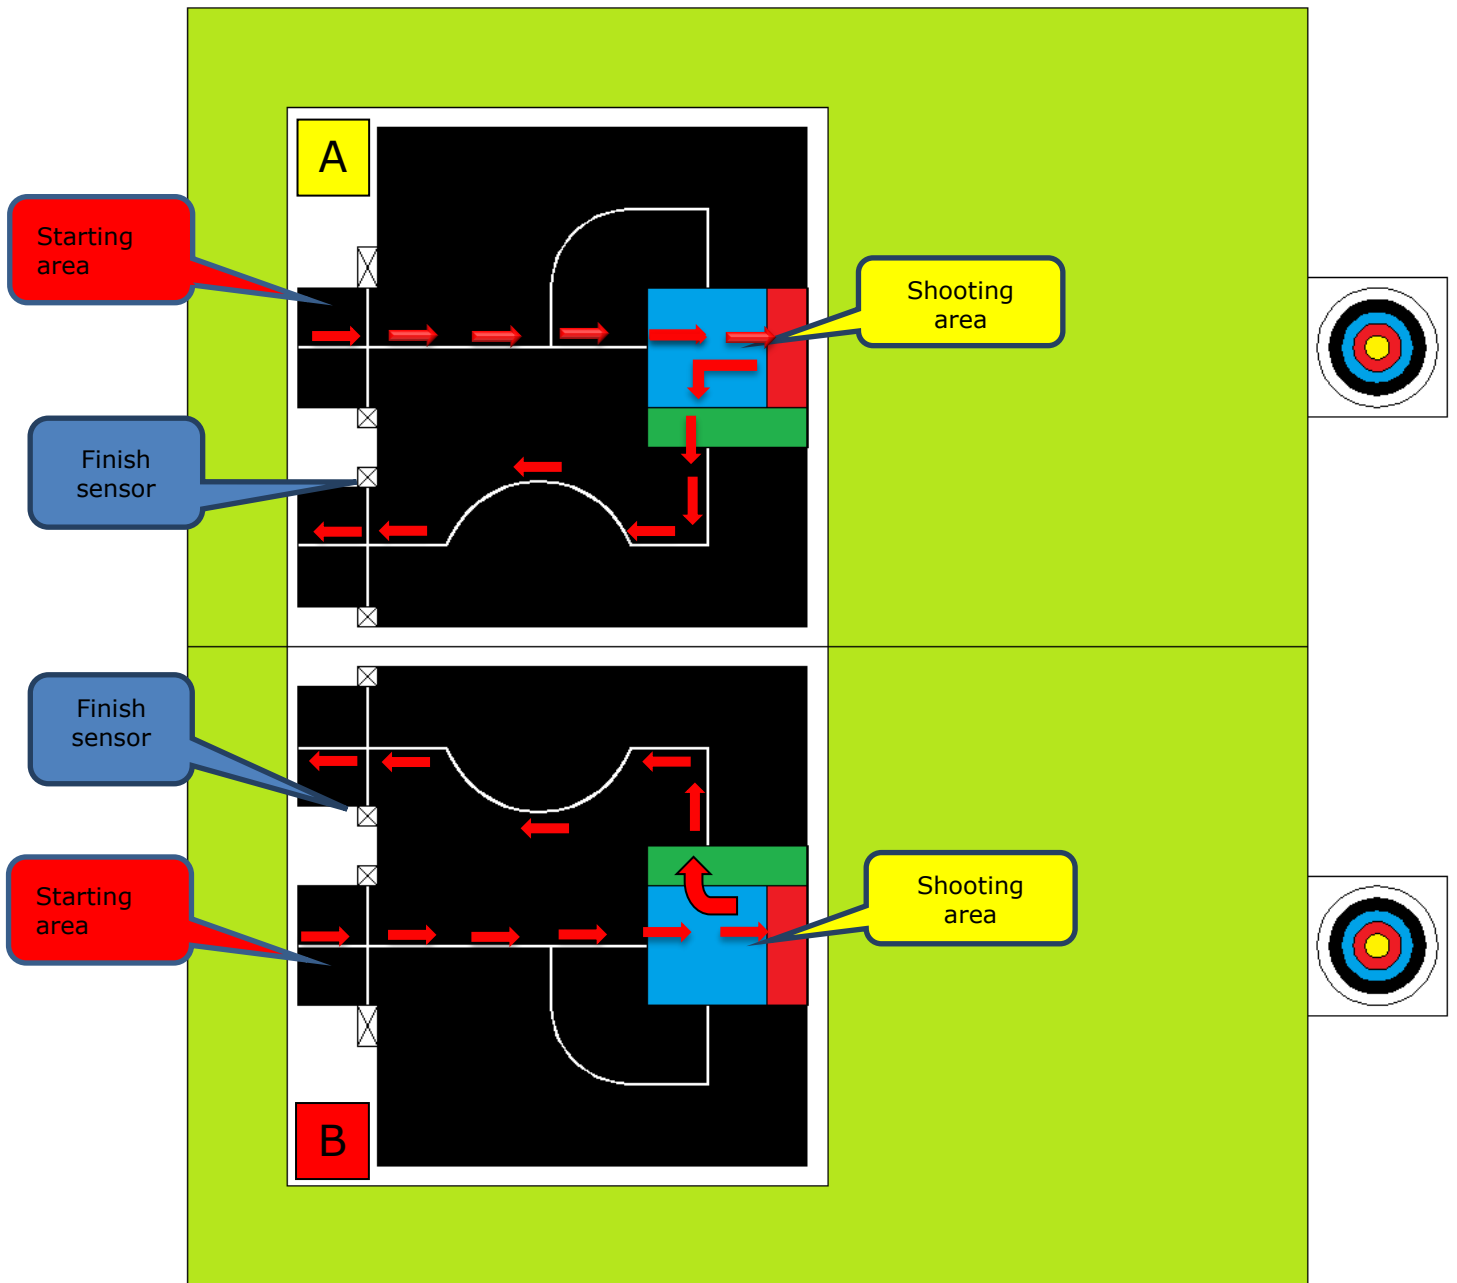
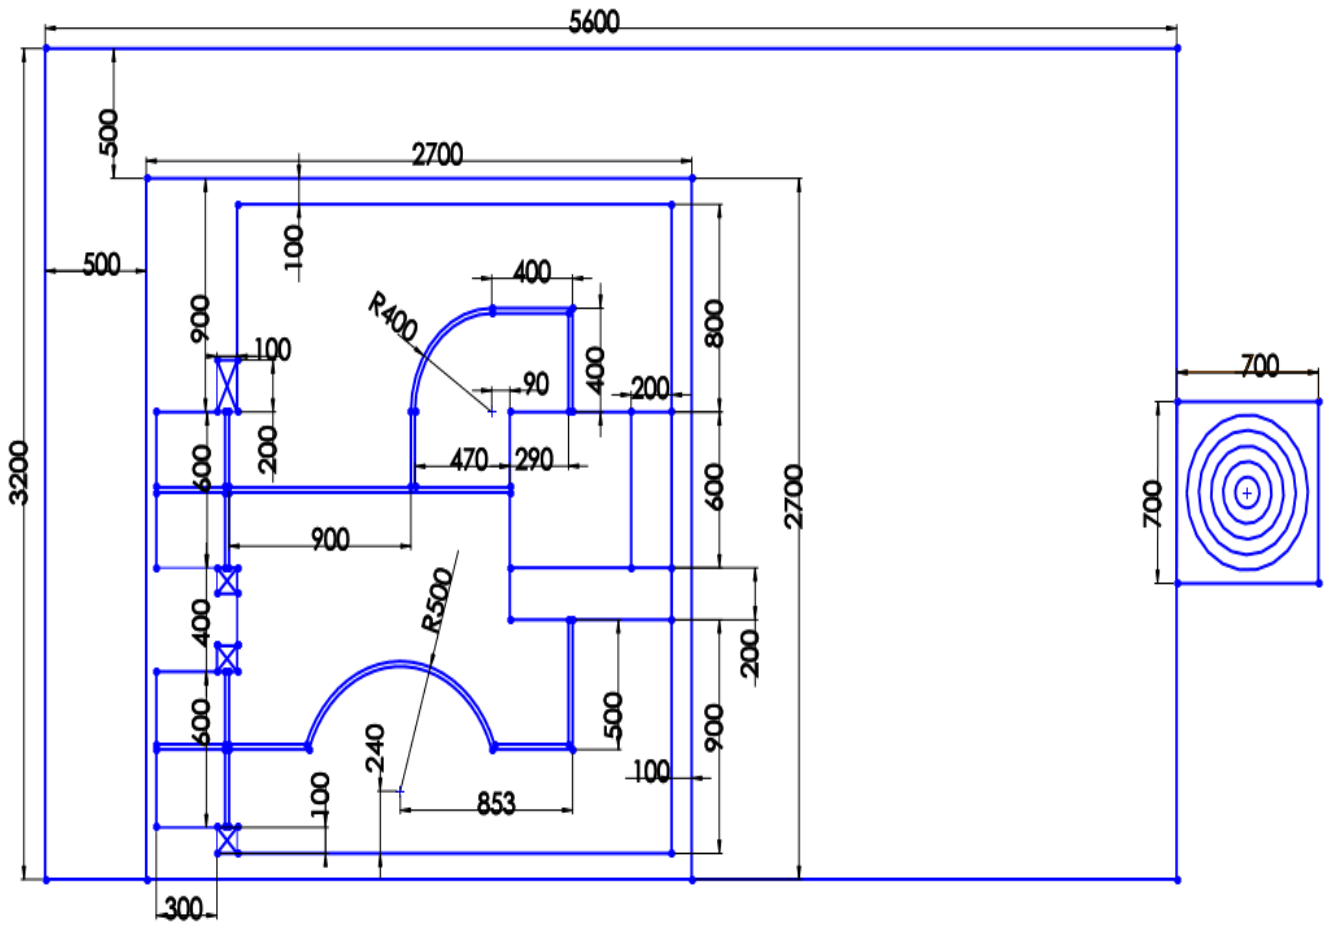

Figure-3: Elimination platform and robot movement routes
Figure-4: Elimination and Final routes dimensions
- a. Platform (2700x2150mm, 5mm thickness), will be made from black opaque PVC foam on chipboard (2700x2700mm). Start and finish areas are made from two pieces (600x400mm) of black opaque PVC foam. Joints between parts that made up lines are covered with black opaque foil . **Figure 3, Figure-4**
- There will be two elimination routes on the platform as to be symmetrical to each other. So they are called route-A and route-B. Total area include location of target board is 5600*6400 mm dir. **Figure-3, Figure-4**